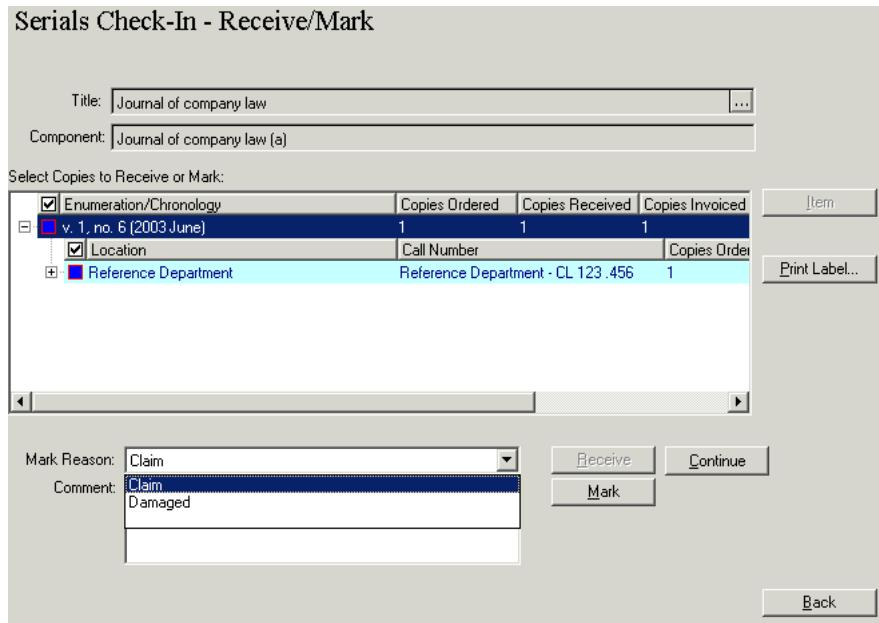

Figure 9-13. Mark Reason drop-down list
- a. Select a mark reason from the drop-down menu in the **Mark Reason** field (see Figure 9-13).